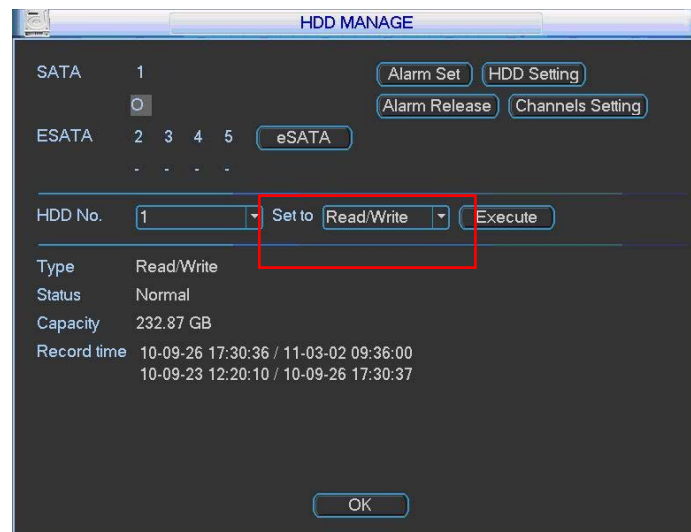

Figure 2-16
In the main menu, from Setting to Schedule, you can highlight redundancy button to enable this function. See Figure 2-16.
In the main menu, from Advanced to HDD management, you can set one or more disk(s) as redundant. You can select from the dropdown list. See Figure 2-16. System auto overwrites old files once hard disk is full.
- Set redundant disk(s) as read-only disk or read-write disk (Main menu->Advanced->HDD management). See Figure 2-16. System needs to reboot to get setup activated. Now you can search or playback file in redundant disk.